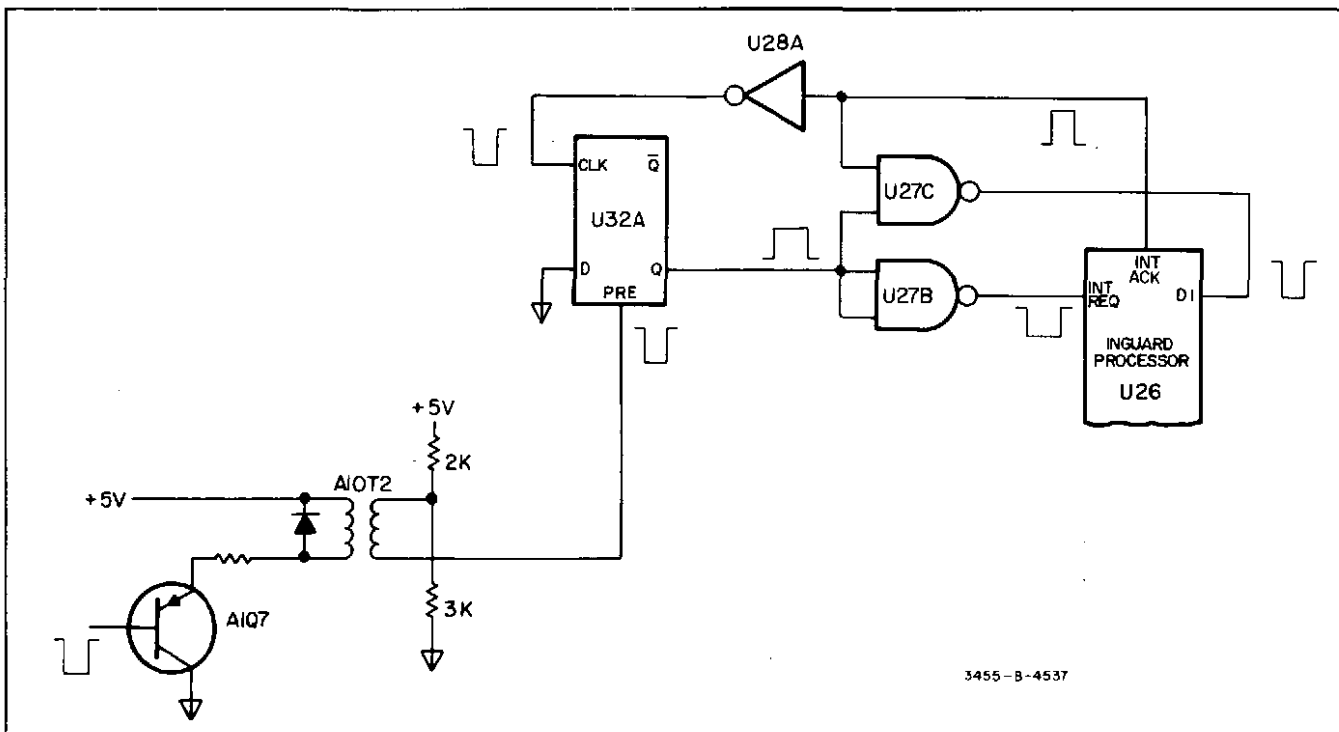

Figure 8-33. Inguard Controller Reset Circuit.
**8-110. Reset Circuit.** The reset line is driven by the main controller to reset the inguard controller to the beginning of its program routine. Figure 8-33 shows a simplified schematic of the reset circuit. A pulse transformer is used to electrically isolate the reset line between the inguard and outguard sections of the voltmeter. The reset pulse applied to the preset input of flip-flop U32A sets the "Q" output high. The high output of U32A causes the output of U27B to go low. The output of U27B sets the "interrupt request" input of the inguard processor. Upon receiving interrupt request, the processor stops driving its data Lines (D0 through D7), allowing them to go high and sets the interrupt acknowledge line high. This signal allows the output of U27C to go low which puts the "start" address on that processor's data bus. The processor (after reaching its "start" address) sets the interrupt acknowledge line low to remove the output of U27C from the data bus and to reset the interrupt circuit to its normal state.